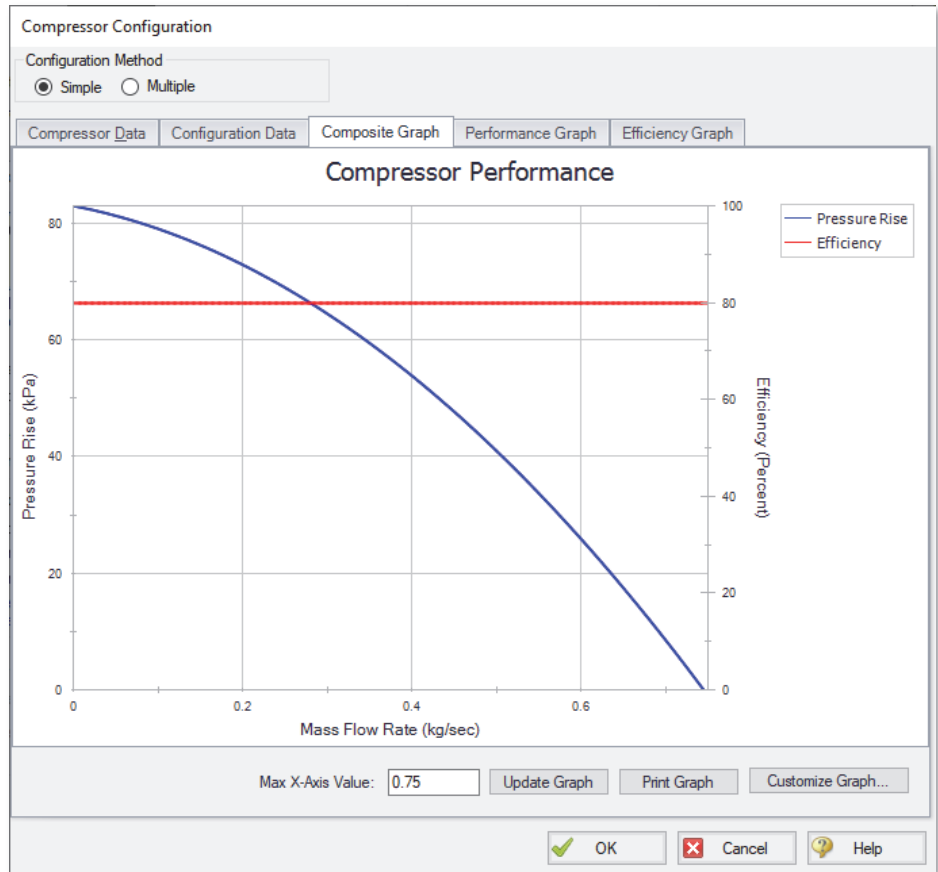

Figure 3.6 Compressor Configuration window Composite Graph tab showing plots of curve fits generated from the Raw Data table
6. After the curve data is entered in the Raw Data table, select the Pressure Rise and Efficiency check boxes in the curve fitting section of the Compressor Configuration window (see Figure 3.5). This will cause curve fits for both pressure and efficiency to be calculated. Then, select the Generate Curve Fit Now button to generate the Compressor Performance graph (see Figure 3.6). Select the OK button on the Compressor Configuration window to accept the Compressor curve fit and to close the window. Select the OK button to close the Compressor/Fan Properties window.